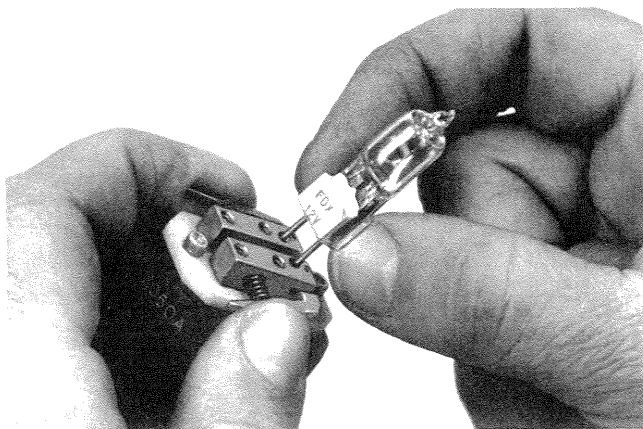

Figure 18.
1. Insert #2052 Tungsten Halogen Lamp into the lampholder by pressing pinch grip fingers on socket (Figure 18). Insert lamp pins into socket holes and release fingers. Care should be taken when handling the Tungsten Halogen Lamp. Fingerprints and stains will etch the glass and should be removed with cleaning tissue and alcohol or acetone before using the lamp.